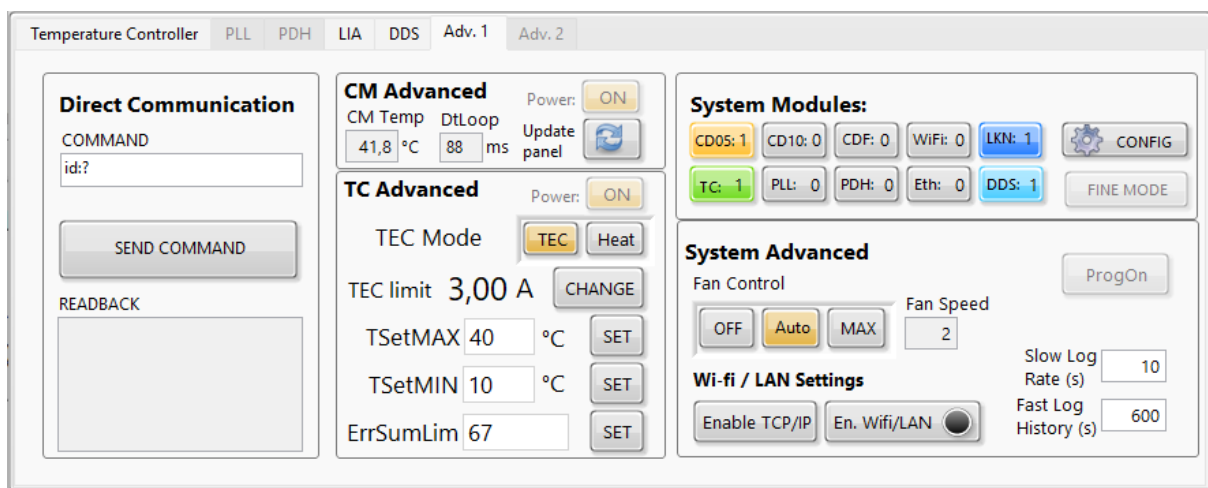

Figure 13: The QubeDL_control Software Advanced tab
- In the TC Advanced section of the Advanced tab(**Figure 13**), that can be found in the lower panel, use the **TEC limit** control to set the **maximum current** that the TC controller may source to the Peltier stage. To do so, you must press the correspondent **CHANGE** button.